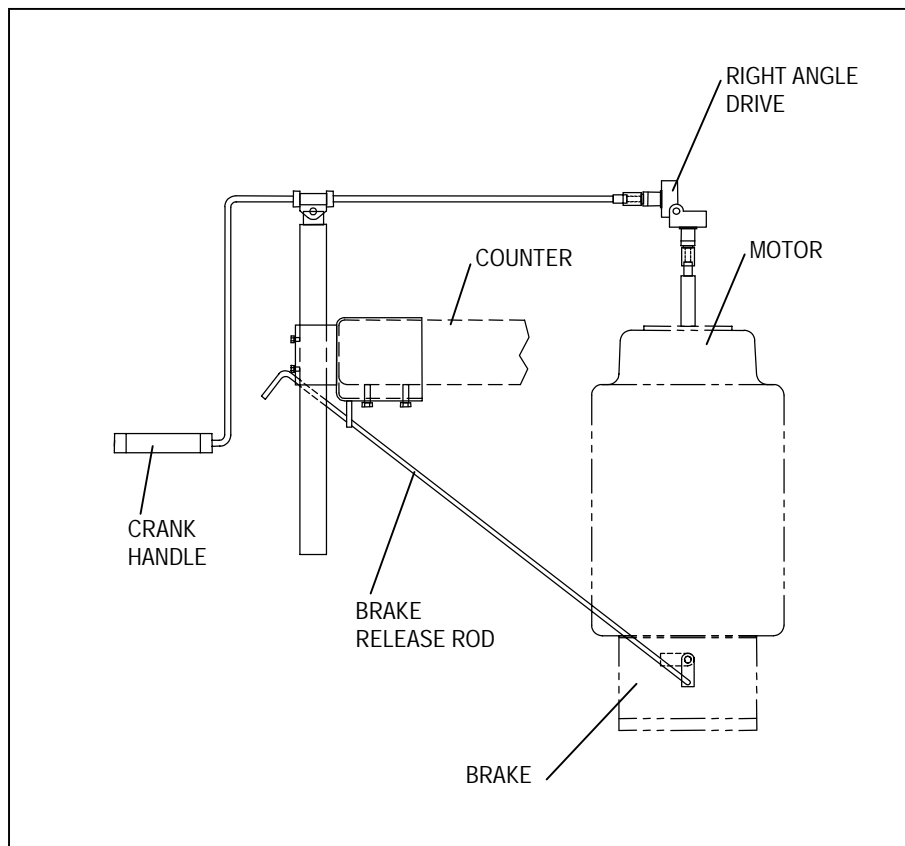

Figure 34. HAND CRANK INSTALLATION
4. Place the crank bracket on the corner of the counter (see Figure 34).